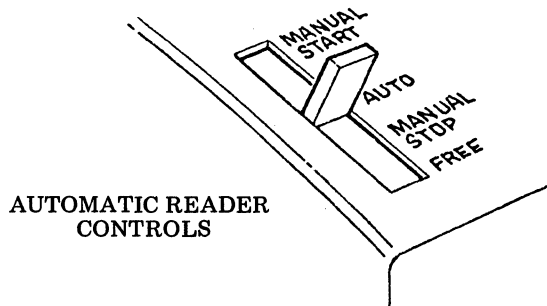

Figure 16 - 186241 Kit Controls
2.66 There are four control positions on the tape reader with the 186241 kit installed. The positions are explained in 2.67 through 2.70. (See Figure 16.)